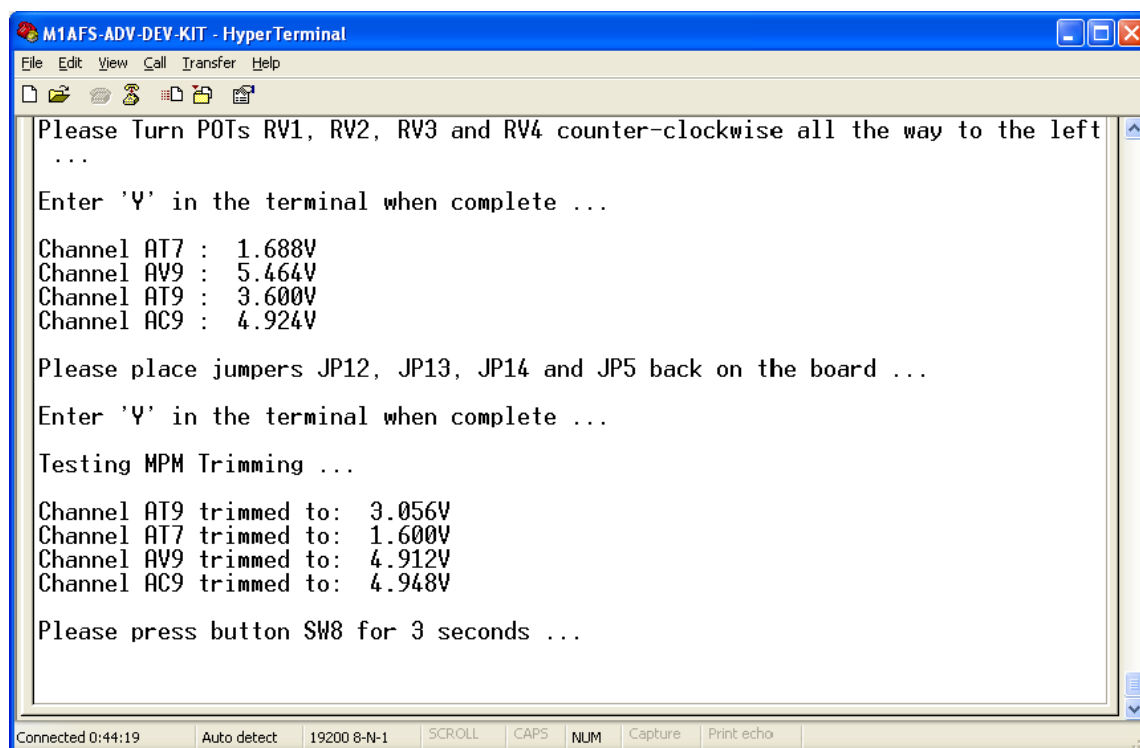

Figure C-30 · MPM Test – Trimming
22. Enter Y in the terminal when done turning POTs. The terminal screen shown in Figure C-30 should appear.